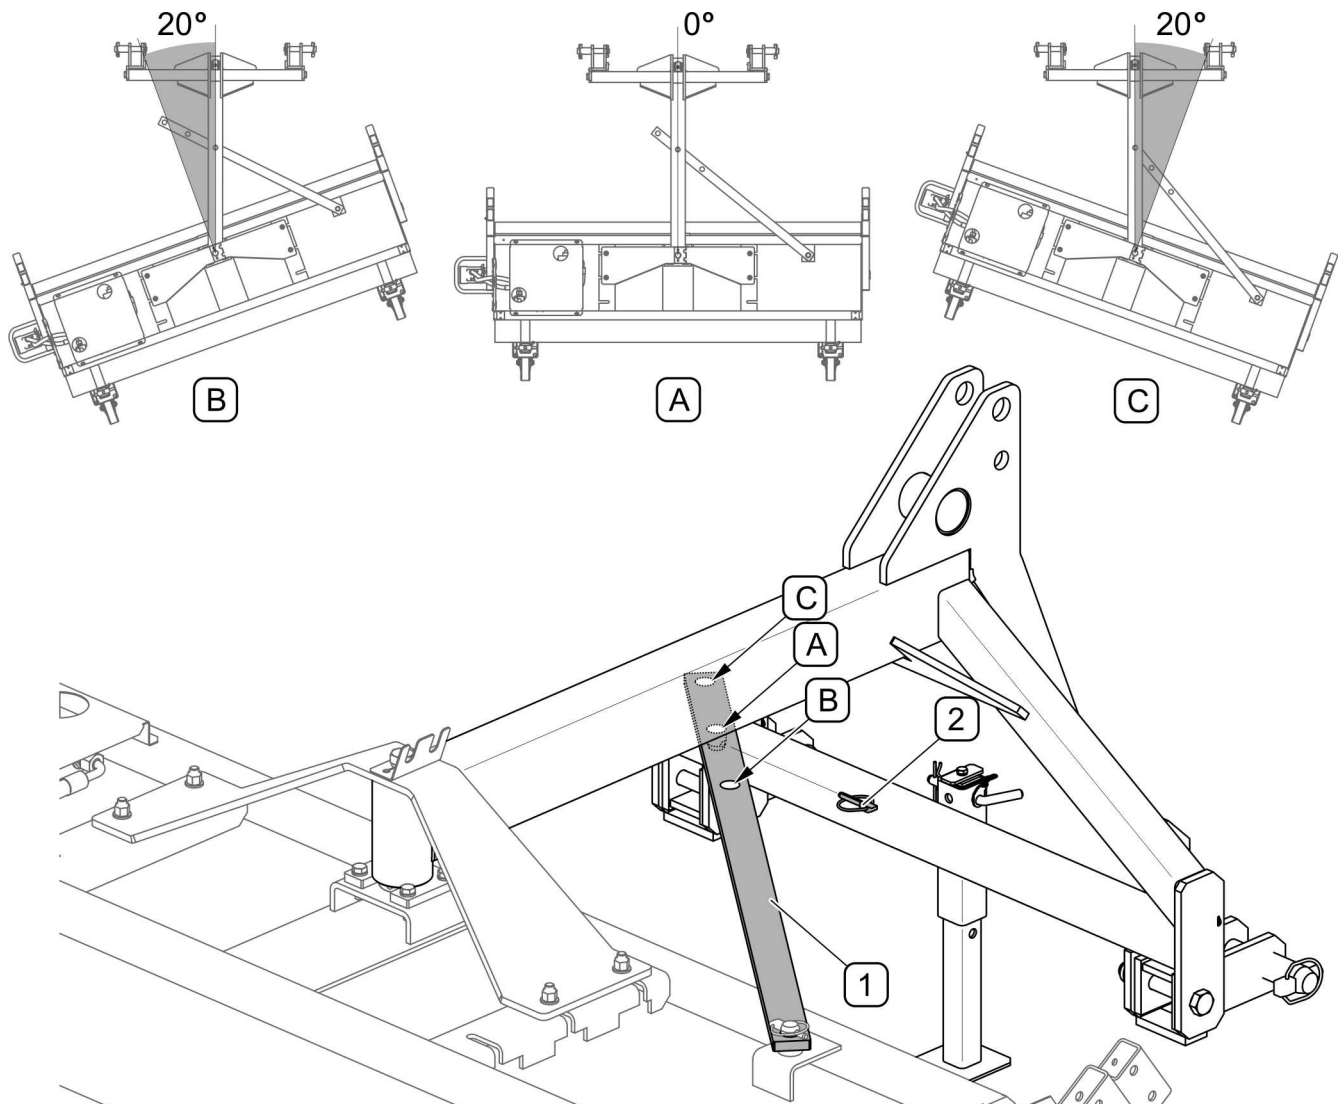

FIG. 4.8 Changing the sweeping roller brush angle of operation
(1) - flat bar, (2) - locking cotter pin, (A) - deflection retaining hole 0°; (B) - right deflection retaining hole 20°; (C) - left deflection retaining hole 20°
To set the working angle of the sweeping roller brush (FIG. 4.8) change the position of the pin to the appropriate retaining hole (A), (B), (C) in the flat bar (1). Fix the pin hole (A) of the flat bar (1) to obtain 0° sweeper deflection. Use locking cotter pin (2) to lock the desired position. Use holes (B) and (C) for right or left 20° deflection. Use the sweeper deflection setting only during sweeper operation without the waste collecting tank.